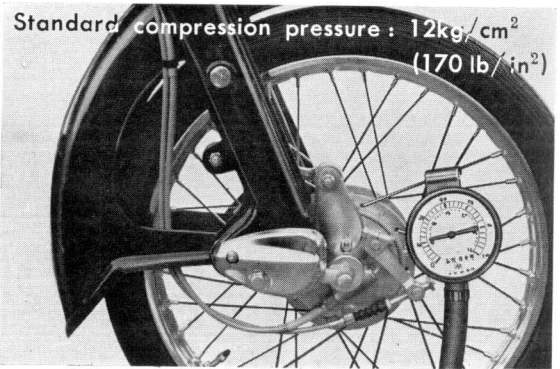

Figure 6-2. Standard compression pressure
- ① Make sure that the throttle and choke are fully opened, or else, a lower pressure indication will be registereed on the compression gauge.
- ② The cylinder compression pressure indication will gradually increase with each kick, therefore, continue kicking until the pressure stabilizes at the highest point.
- ③ To obtain a true cylinder pressure indication, the measurement should be made after the engine attains operating temperature.
- ④ Check for the proper operation of the valves
- ⑤ Make sure that the compression gauge is firmly fitted in the spark plug hole.
- d. The standard specified cylinder compression pressure is 12kg/cm² (172 lb/in²). (Fig. 6-2)